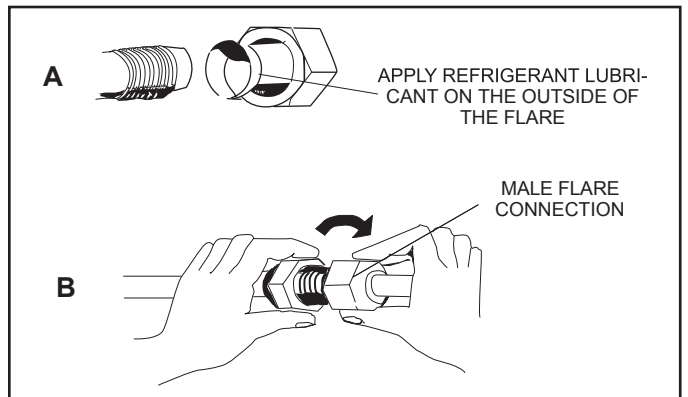
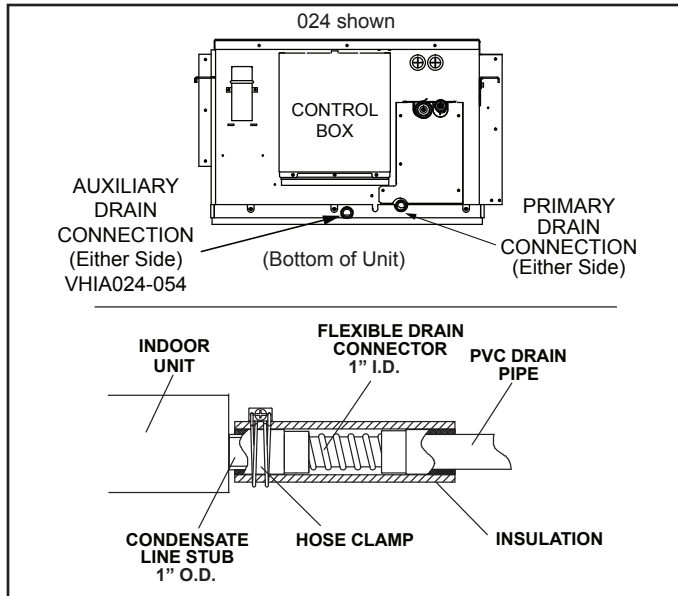

Figure 5. Making Connections at Indoor Unit (Male to Female Connection)
Figure 10. Condensate Drain Connection
6. If the unit is being installed in an application that includes a sheet rock (plasterboard) ceiling, it is required that an access panel be installed in a suitable location. This will also allow access for future maintenance (requirement of Lennox warranty program). Access is required during the commissioning process to test the condensate disposal system (See Figures 10, 11 and 12), to check the electronic expansion valve and associated flare nuts (See Figure 5), and to check the local disconnect.
5. Apply recommended R-410A refrigerant lubricant to the outside of the field-provided flared line sets (Figure 5 -- A).
6. Align the union tube and flared refrigerant lines with each other, then tighten the flare nuts lightly at first to obtain a smooth match (Figure 5 -- B).
1. Use the provided hose clamp to secure the provided flexible condensate drain connector and insulating sleeve to the drain line stub on the side of the indoor unit. See Figure 10. **NOTE - Take care not to over-tighten the hose clamps this may damage the drain line stub.**